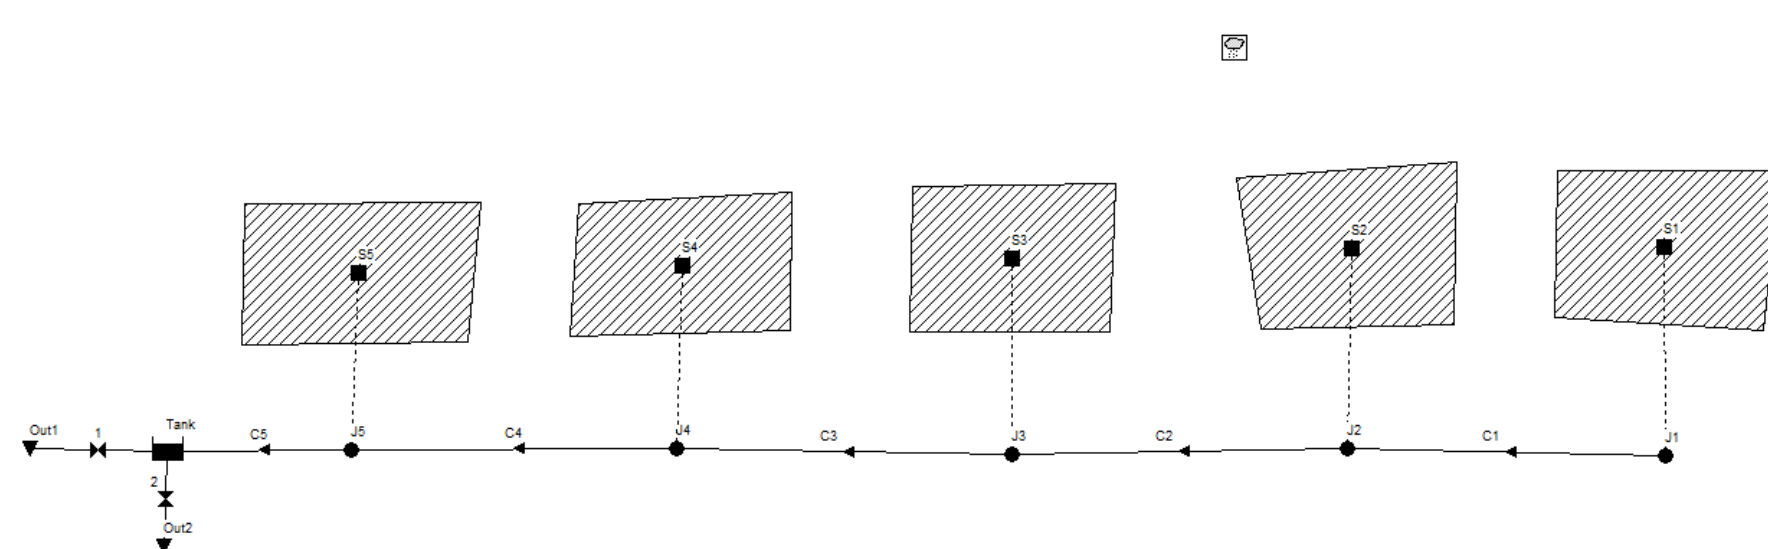

Figure 3: First Flush System with five first-flushes in EPA SWMM Software
- Used NOAA Atlas 14 rainfall data and EPA SWMM (Stormwater Management) to quantify first-flush volume and runoff from the 4000 square feet of roof (see Figure 3).